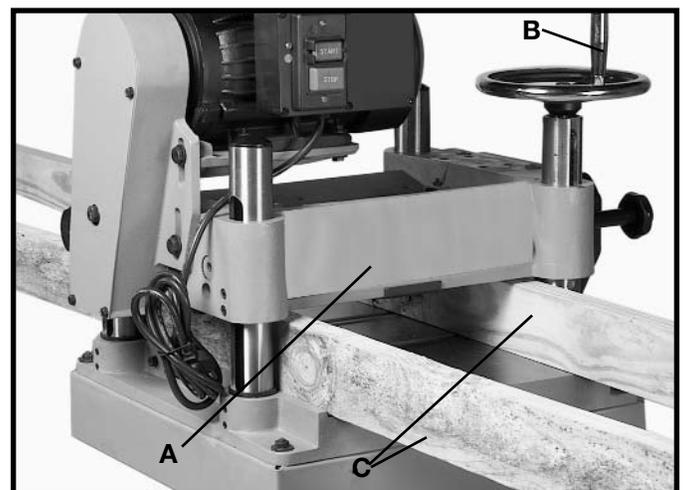

Fig. 10
2. Raise the cuttinghead (A) Fig. 10, by turning the raising and lowering handwheel (B) clockwise, and insert two 6 or 8 foot long 2 x 4's (C) between the cuttinghead and table as shown. Lower the cuttinghead just until it touches the 2 x 4's (C) Fig. 10, so that they are positioned solidly between the table and cuttinghead. Then with two people on each end of the 2 x 4's, move the machine to its desired location.